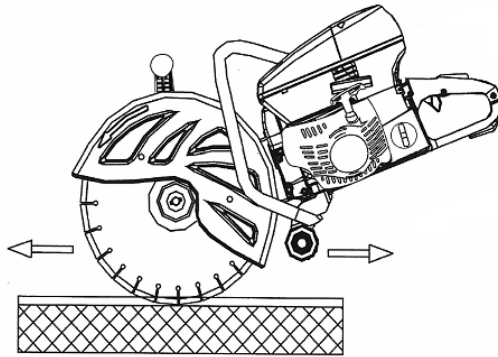

Figure 11
- Insert the workpiece as shown in Fig. 11.